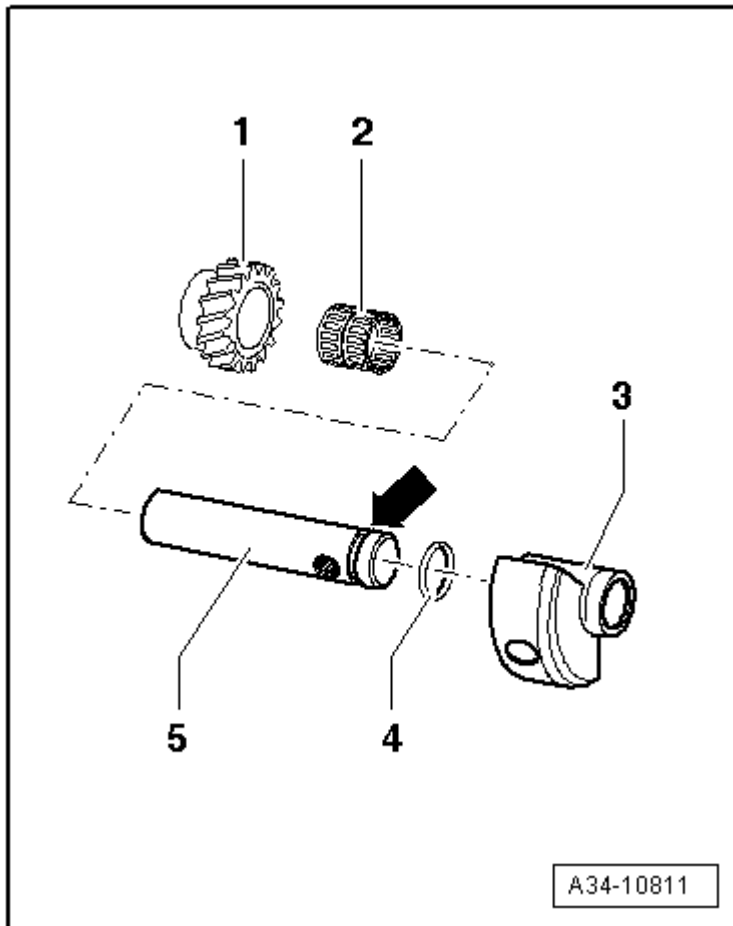

Fig. 6: Reverse Drive Gear Assembly Overview
- Reverse drive gear assembly overview; refer to **Fig. 6**